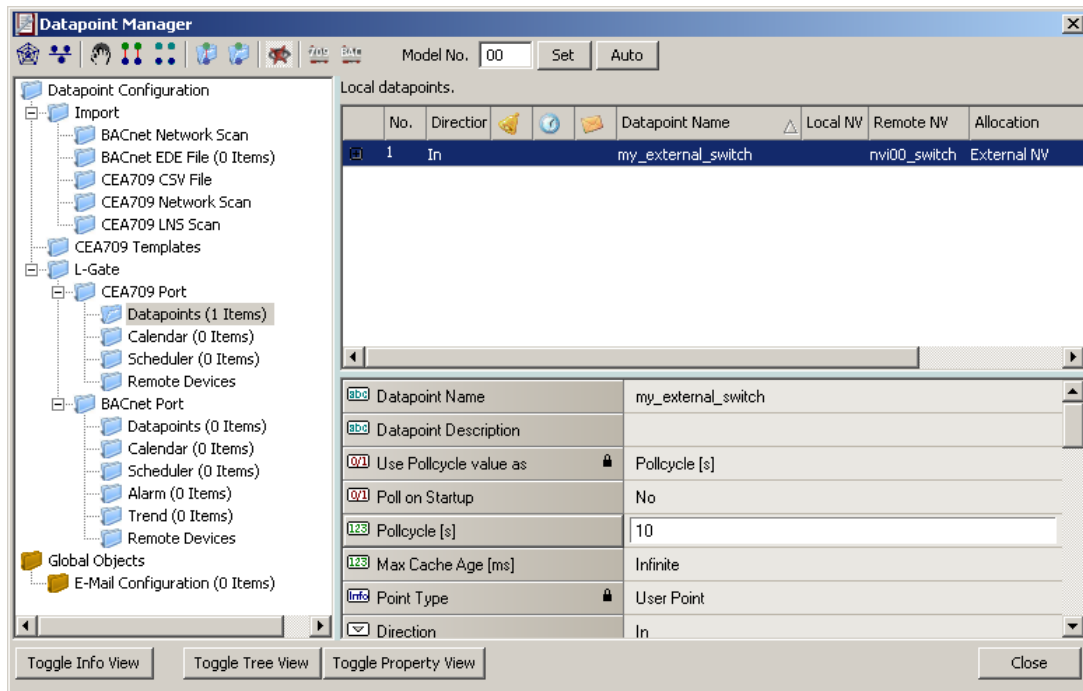

Figure 95: Manually created external NV in the port interface definition.
7. The external NV now appears in the port interface definition as shown in Figure 95. For external NVs, which are inputs to the L-Gate, adapt the poll cycle property to your needs.